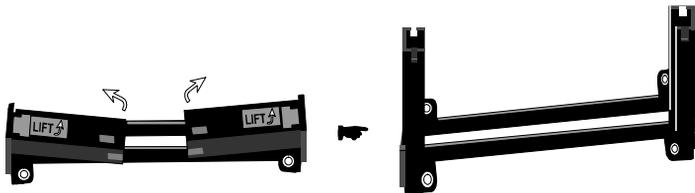

Figure 6
- 1 First, please refer to figure 6 below, and follow the direction to lift up the fixed foldable pentium® II/III Retention Mechanism. This pre-installed device is designed for you to install Pentium® II/III CPU more easier and to avoid any damage on the board due to overtightening the four screws.